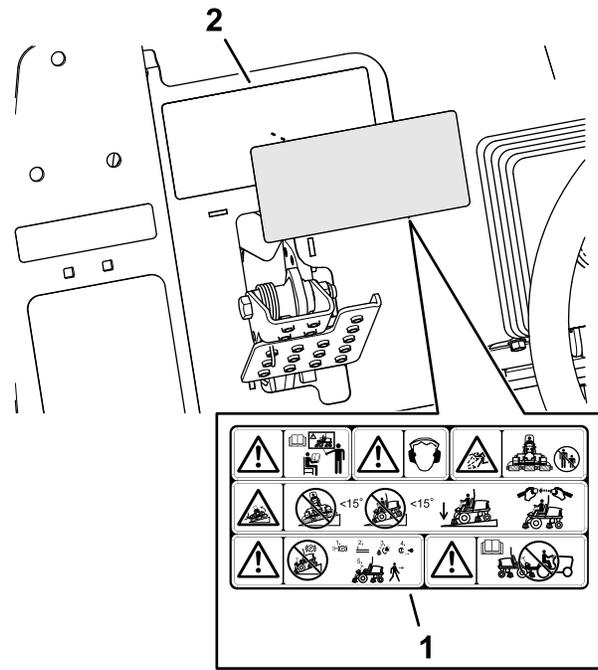

Figure 40
1. Use rubbing alcohol and a clean rag to clean the surface of warning decal 133-2930, and allow the decal to dry (Figure 40).